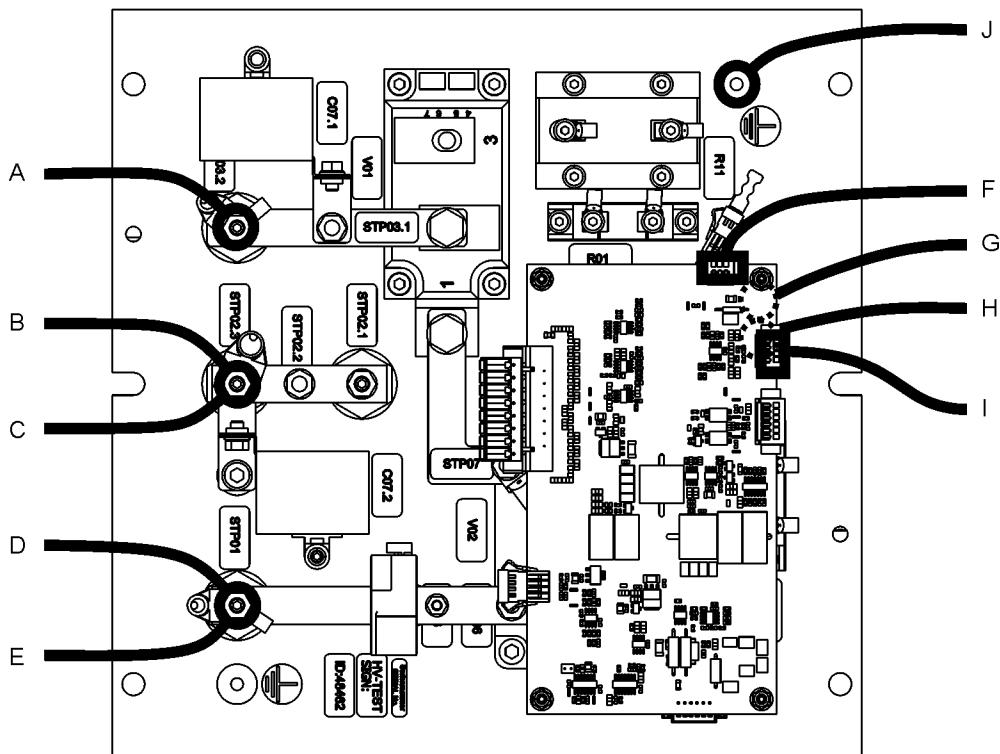
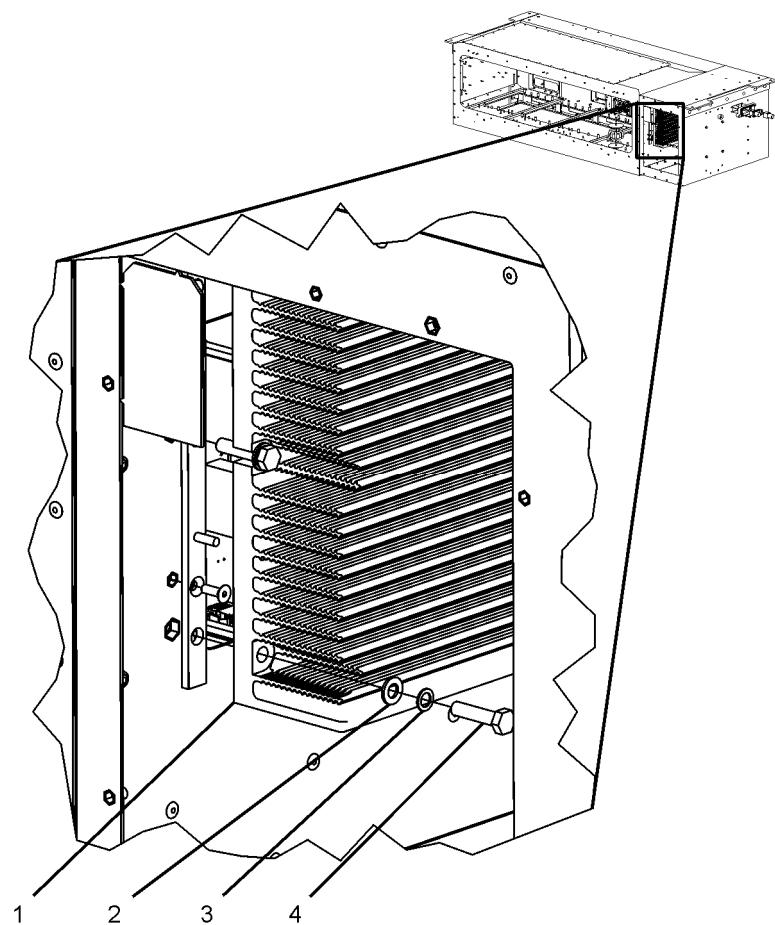

Figure 5-3: A101 Electrical Connections
Figure 5-4: A101 Anchor Points
- a. Disconnect External Cables. There are nine cables which connect to the A101. These connections are identified as A through I and are shown in Figure 5-3. Remove the fasteners and disconnect the cables.
7. Detach A101 (see Figure 5-4). A101 (1) is mounted to the bulkhead separating the air intake chamber from the dry area of the APS and is anchored to the bulkhead at six anchor points using M8x35 screws (4), M8 flat washers (2) and M8 Schnorr washers (3) at each point.
2. Insert A101 Module (see Figure 5-4). Orient the A101 module (1) so that it is seen as shown in Figure 5-3.
3. Attach A101. A101 (1) is mounted to the bulkhead separating the air intake chamber from the dry area of the APS and is anchored to the bulkhead at six anchor points using M8x35 screws (4), M8 flat washers (2) and M8 Schnorr washers (3) at each point.
- a. Connect Ground. The A101 is grounded by a short jumper which attaches to the base of the module (see item J in Figure 5-3) using an M6 flat washer, M6 Schnorr washer and M6x10 screw. Affix these fasteners to connect the ground cable.
- b. Connect External Cables. There are nine cables which connect to the A101. These connections are identified as A through I and are shown in Figure 5-3. Affix the fasteners and connect the cables.